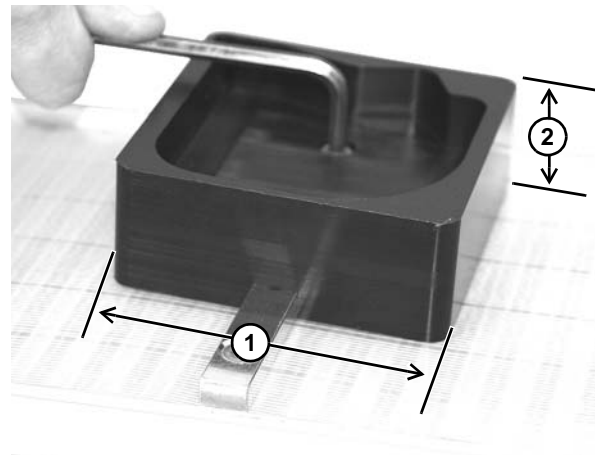

Figure 2
- Maximum width of Pallet = 3" (**Figure 2, item 1**)
- Maximum height of Pallet = 3" (**Figure 2, item 2**)